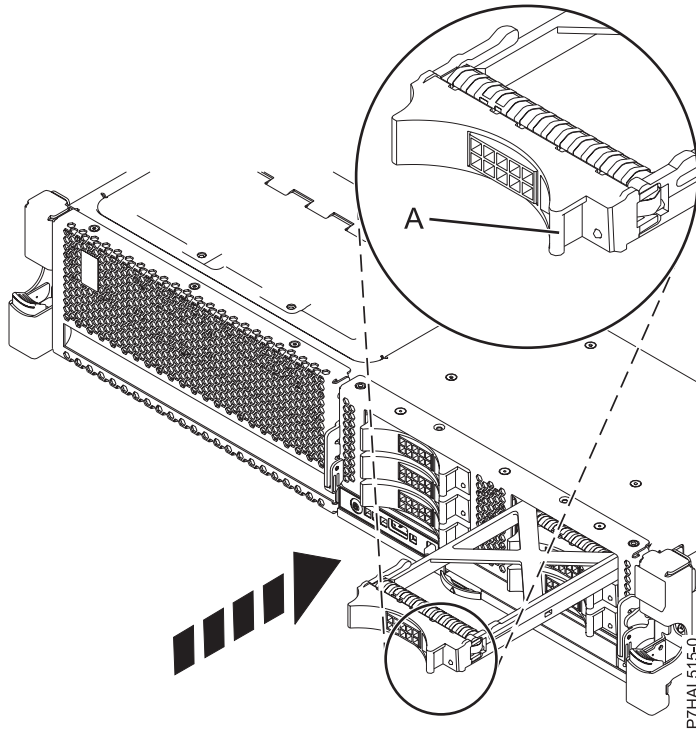

Figure 60. Installing a disk drive filler
2. Slide the disk drive filler all the way into the system or expansion unit, and push the disk drive filler handle (A) until it locks, as shown in Figure 60 on page 91.